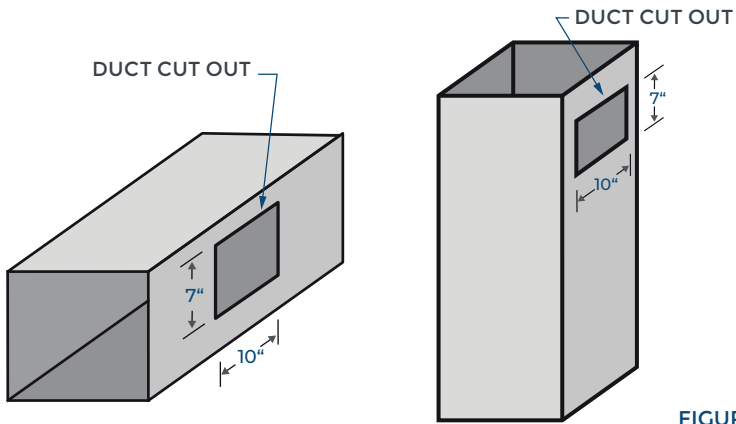
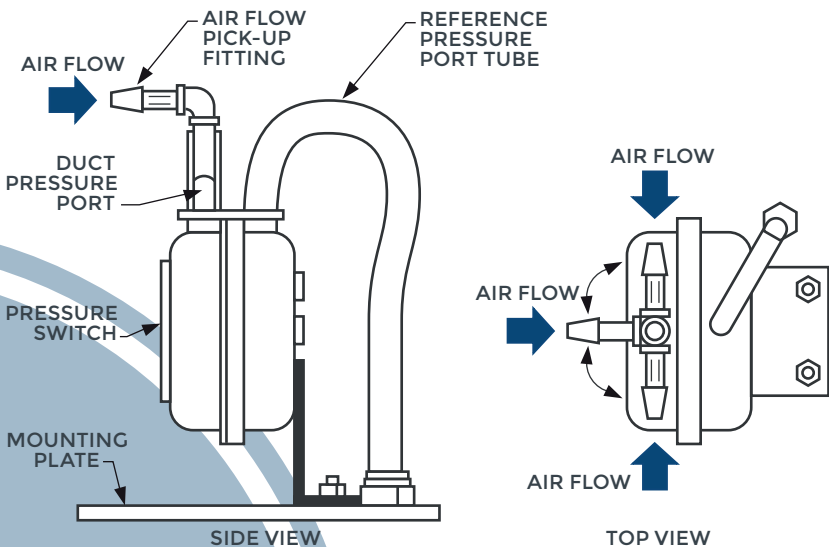

FIGURE 2
FIGURE 3
- The AirPlate must be mounted horizontally, even in vertical ducts. (See Figure 2) If mounted vertically, the pressure switch may remain actuated after the fan stops.
Step 1. Cut a 10" X 7" rectangular hole in the duct (See Figure 2).
Step 3. Install the model 100 or 200 ionization unit to the AirPlate using the four (4) machine screws (provided).
- b. mount the supplied Airflow Pick-Up Fitting onto the Duct Pressure Port on the pressure switch located on the back of the plate. Rotate the Airflow Pick-Up Fitting so that the air in the duct flows into the fitting opening. This converts velocity pressure to static pressure (See Figure 3).
- In duct systems where 0.05 inches of WG is not consistently present, ensure that the supplied Airflow Pick-Up Fitting is installed correctly and is rotated in the correct orientation so that the air in the duct flows into fitting's opening. (See Figure 3).